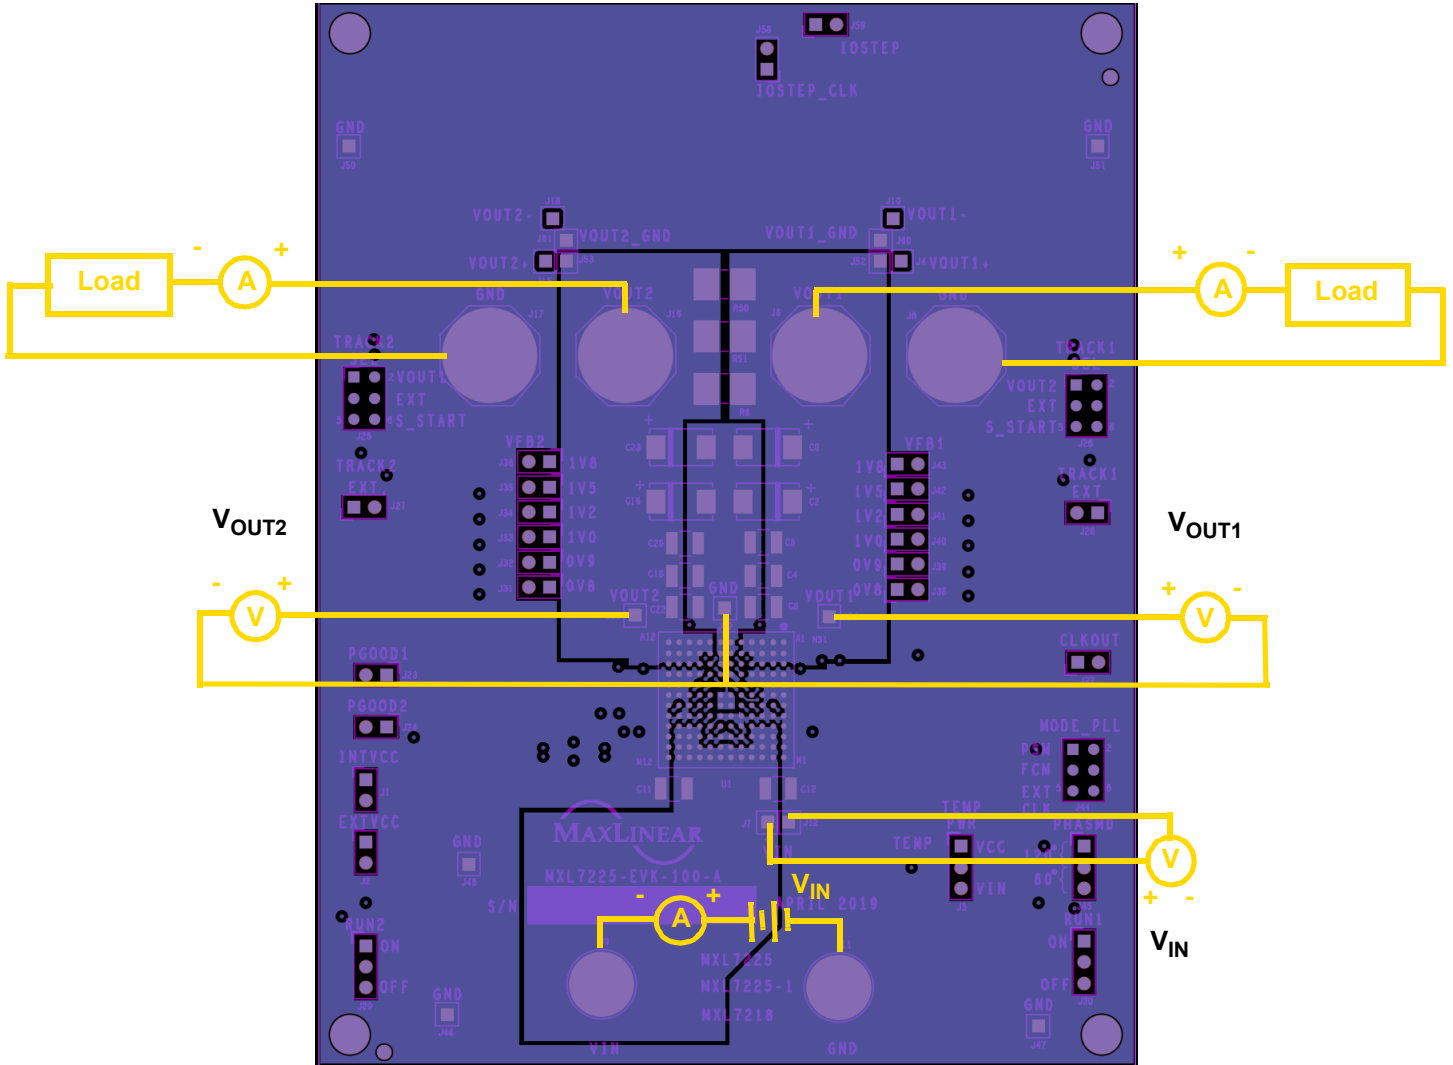

Figure 1: Monitoring V_{IN} and V_{OUT}
2. Connect a turned-off power supply that is within a V_{IN} specification of 4.5V to 16V, (12V typical) to VIN and GND with short, thick leads. Use test pins VIN+ and VIN- to monitor VIN and GND respectively. See locations in Figure 1.
3. For the channel 1 output, connect an electronic load initially set to 0A, that will be no more than the above maximum I_{OUT} (13A), to VOUT1 and GND with short / thick leads. Use test pins VOUT1 (J54) and GND (J49) to monitor VOUT1 and GND respectively. See locations in Figure 1.
4. For the channel 2 output, connect an electronic load initially set to 0A, that will be no more than the above maximum I_{OUT} (13A), to VOUT2 and GND with short, thick leads. Use test pins VOUT2 (J55) and GND (J49) to monitor VOUT2 and GND respectively. See locations in Figure 1.